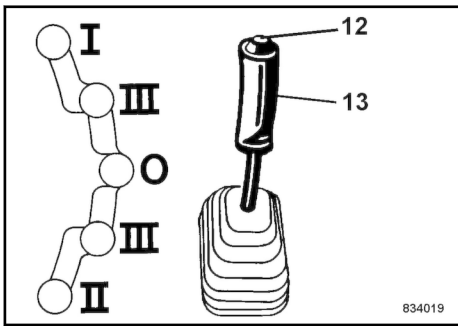

Fig. 56
Shift the travel lever (13) ↗ Fig. 56 slowly to the desired travel direction to position "III".